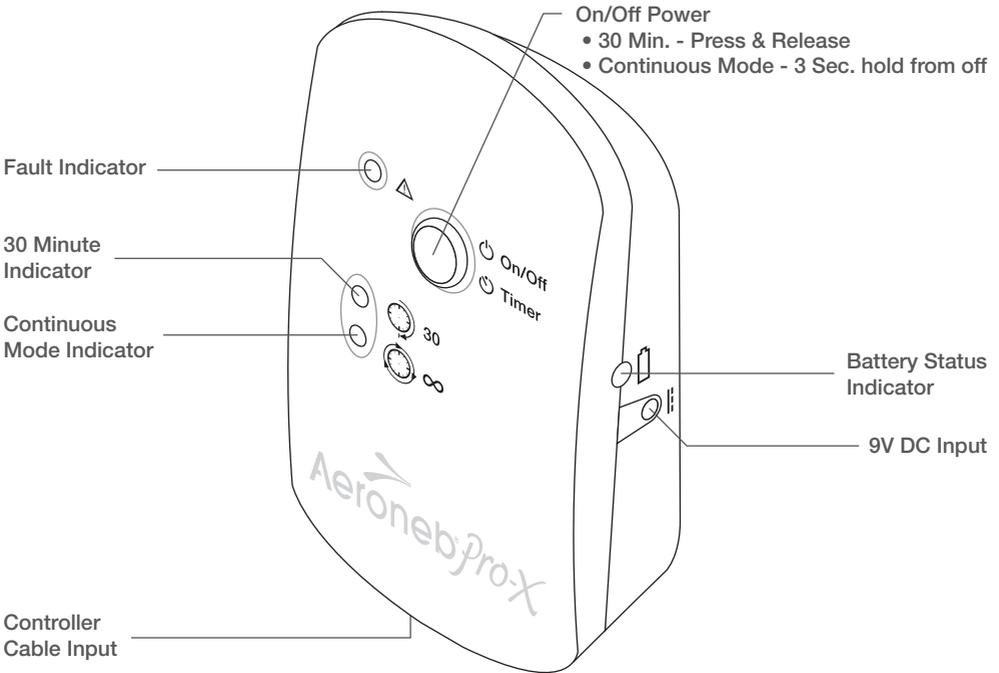

Figure 4. Aeroneb Pro-X Controls & indicators
4. To start a 30 minute nebulization cycle, press and release the blue on/off power button (Figure 4). The green 30 minute indicator light illuminates to indicate that the 30 minute nebulization cycle is in progress.